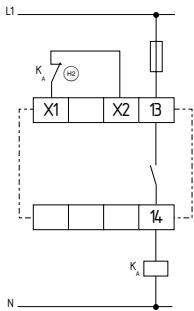

Fig. 17
**Single-channel control with feedback circuit (Fig. 17)**